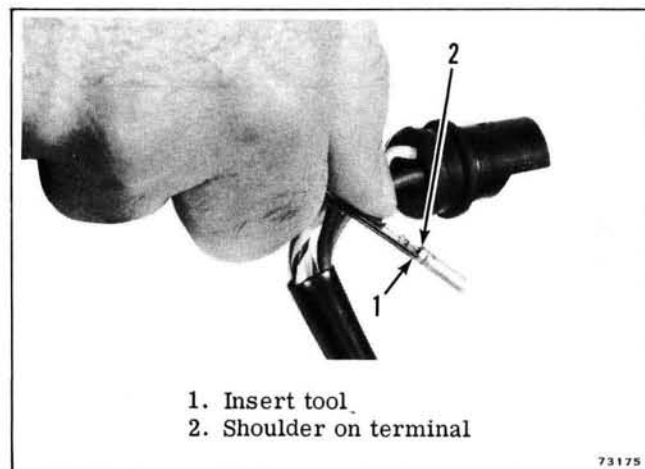

Figure 4-11. Insert Tool on Terminal
b. Position the insert tool against the shoulder of the terminal. See Figure 4-11.